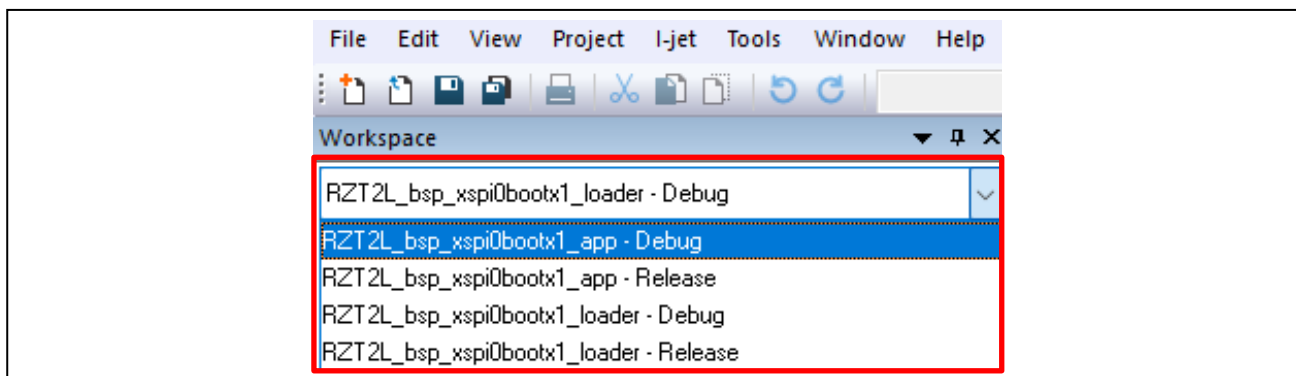

Figure 5-1 Project selection
2. Select "RZT2L_bsp_xspi0boot1_app" project in Workspace box as Figure 5-1.